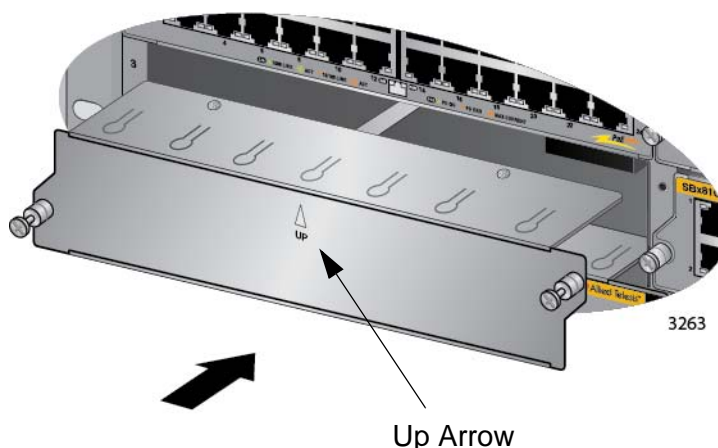

Figure 93. Installing a Blank Slot Cover
1. Position a blank slot cover over an unused slot, as shown in Figure 93. The up arrow on the panel must be pointing up.